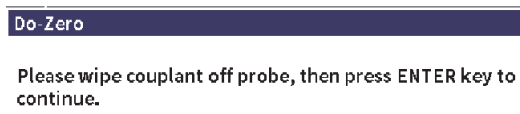

Figure 11-36 Do-Zero dialog box
10. Press ESC twice to dismiss the **Transducer Setup** page and display the **Do-Zero** dialog box (see Figure 11-36 on page 196).